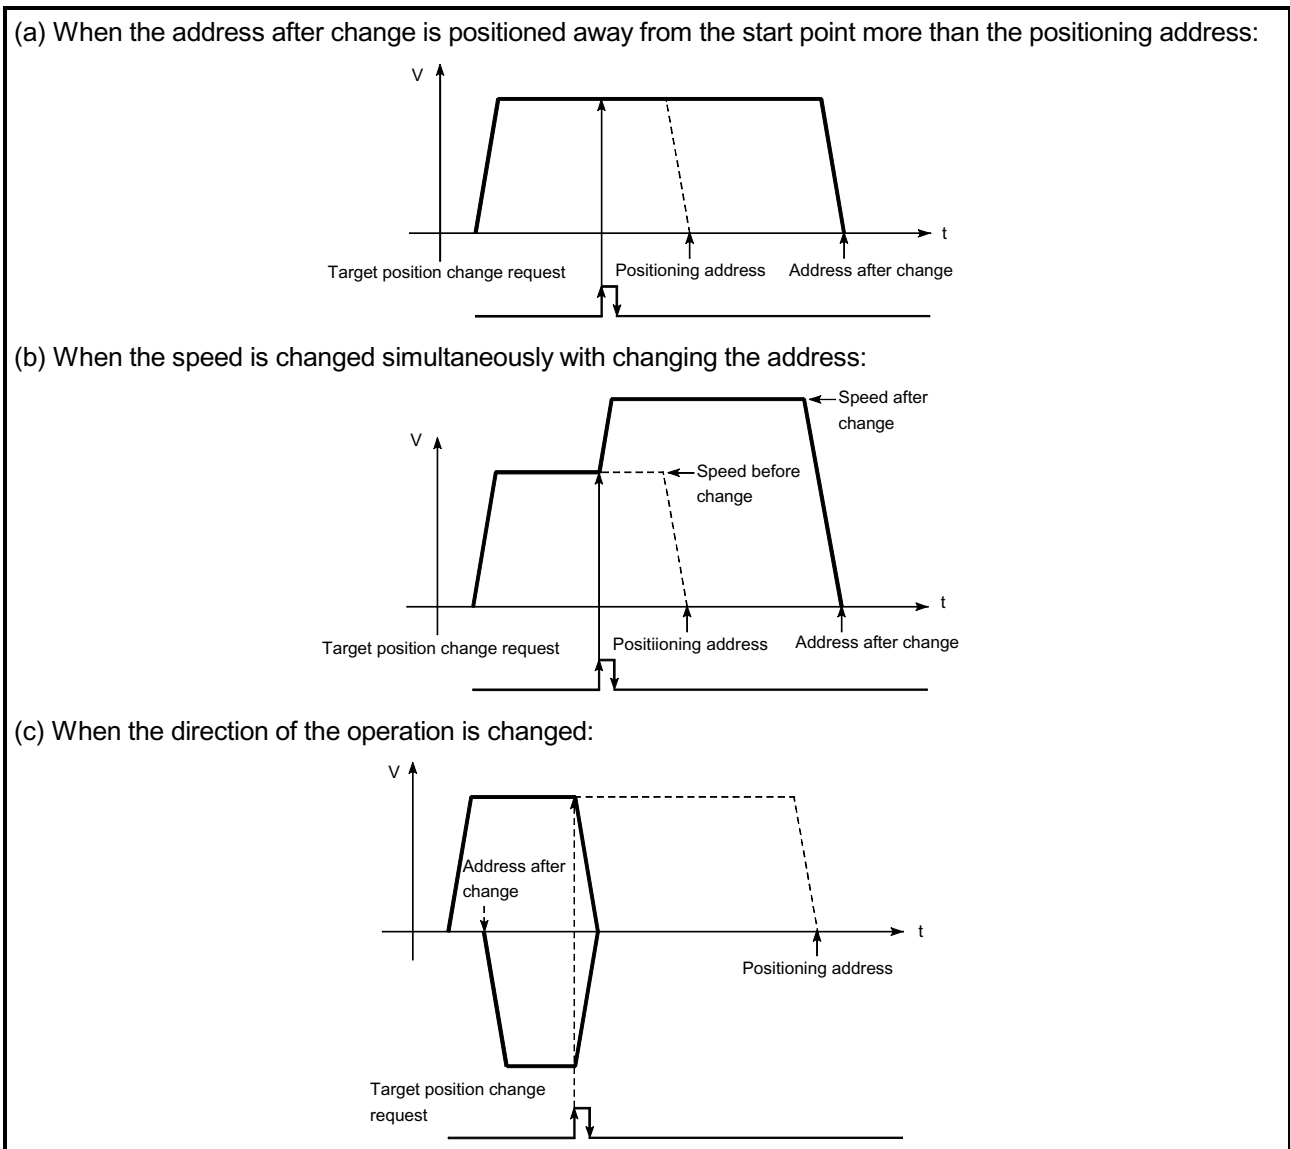

Fig. 12.39 Target position change operation
- (1) If the positioning movement direction from the stop position to a new target position is reversed, stop the operation once and then position to the new target position. (Refer to Fig. 12.39 (c).)
- (2) If a command speed exceeding the speed limit value is set to change the command speed, a warning will be given, and the new command speed will be the speed limit value (warning code: 501).